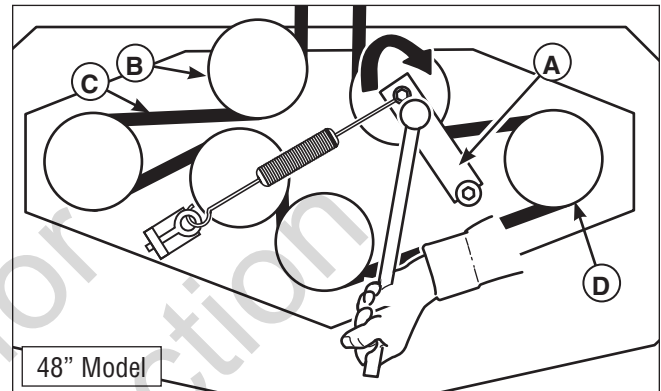

Figure 41. Mower PTO Belt
3. Using a 1/2" breaker bar, place the square end in the square hole located in the end of the idler arm (A, Figures 41). Carefully rotate the breaker bar **CLOCKWISE**, which will relieve the tension on the belt exerted from the idler arm.
4. Slide the drive belt over the edge of the stationary idler pulley (B). Carefully release the tension on the breaker bar.
6. Install the drive belt on the PTO pulley, the spindle pulleys and all idler pulleys except the stationary pulley (B, Figure 41). Carefully rotate the breaker bar **CLOCKWISE** and install the belt on the stationary idler pulley (B). Carefully release the tension on the breaker bar.